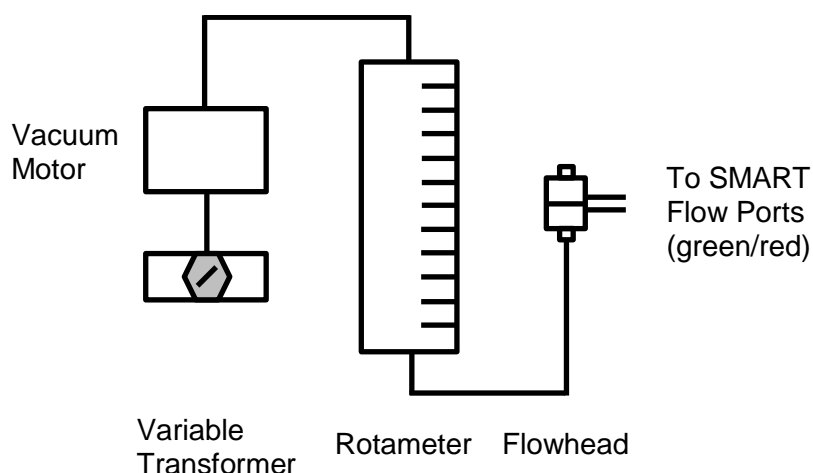

Figure 4: Equipment set up required for the flow transducer check
In addition to the pressure system, a rotameter covering the range 0-167ml/s (0-10l/min), a vacuum motor (available from vacuum cleaner manufacturers) and a variable transformer (to produce an adjustable source of flow with a variable voltage supply) are required. The calibration check of the flow transducer is carried out using the set up shown in Figure 4 and by following the steps shown below:
- With the pressure transducer exposed to zero pressure (i.e., disconnected from the test equipment described in Figure 4), measure the voltage between test point 5 (ground) and test point 6 using a sensitive DC voltmeter
- With the pressure transducer exposed to 100ml/s (6l/min) flow using the test set up described in Figure 4, measure the voltage between test point 5 (ground) and test point 4 using a sensitive DC voltmeter